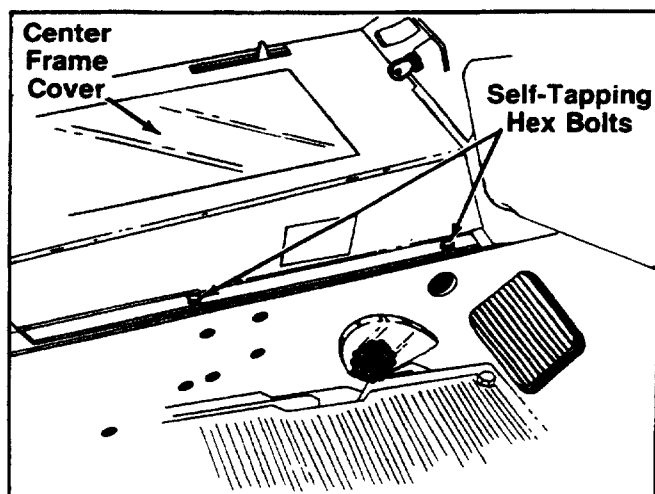

FIGURE 9.
8. Remove the four self-tapping hex bolts holding the center frame cover. See figure 9. Lift off center frame cover.